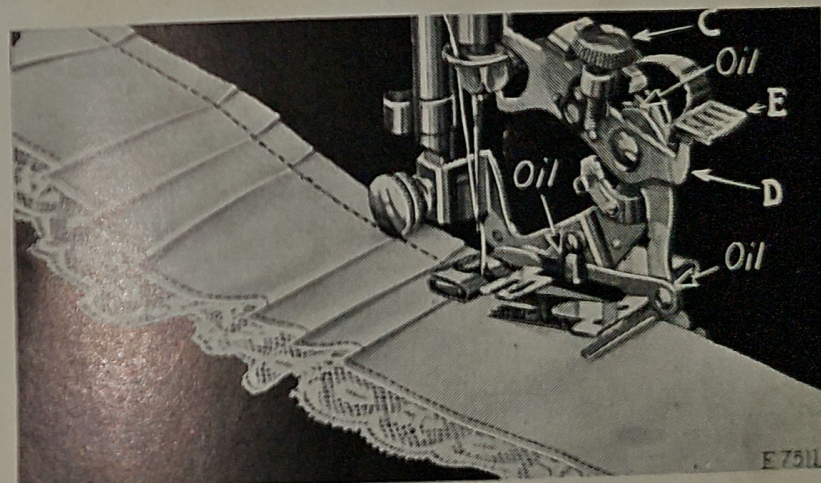

FIG. 47
The ruffler can be adjusted for group plaiting by lifting the adjusting lever (E, Fig. 47) and moving
it to the right so that the top of the projection (D, Fig. 47) enters the small slot indicated by the star on the adjusting lever. This should be done at the points where you wish to make the space between the plaits. The ruffler will then stop and plain stitching will be made. When the desired space has been made, adjust the lever (E) so that the projection (D) enters either the slot marked "6" or the slot marked "12." By alternately making groups of plaits and plain spaces, as shown in Fig. 47, very attractive work can be produced.
Occasionally apply a drop of oil to the working parts of the ruffler at each of the places indicated by arrows in Fig. 47. After oiling, operate the ruffler on a waste piece of material to prevent the oil soiling the work. If the ruffler does not plait evenly, a drop of oil may remedy the trouble.